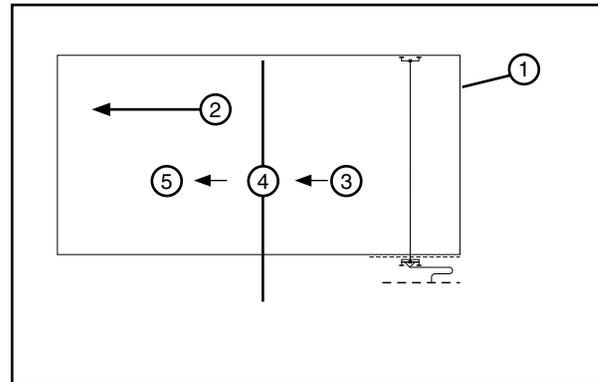

Figure 37-2 1. Field 2. Direction of Travel 3. Wet 4. Stop 5. Dry
3. The system direction is reversed, the percentage timer is set to the desired application rate and the system is run wet (irrigating) to the middle of the field. See Figure 37-2.
4. The system is stopped, the percentage timer is set to 100% and the system is run dry to the original end of the field. See Figure 37-2.